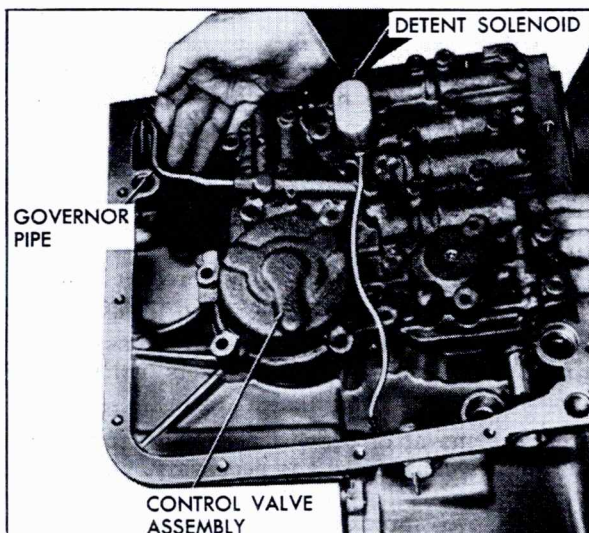

Fig. 7-158 Removing Control Valve Assembly
5. Remove control valve assembly with remaining governor pipe attached, Fig. 7-158.